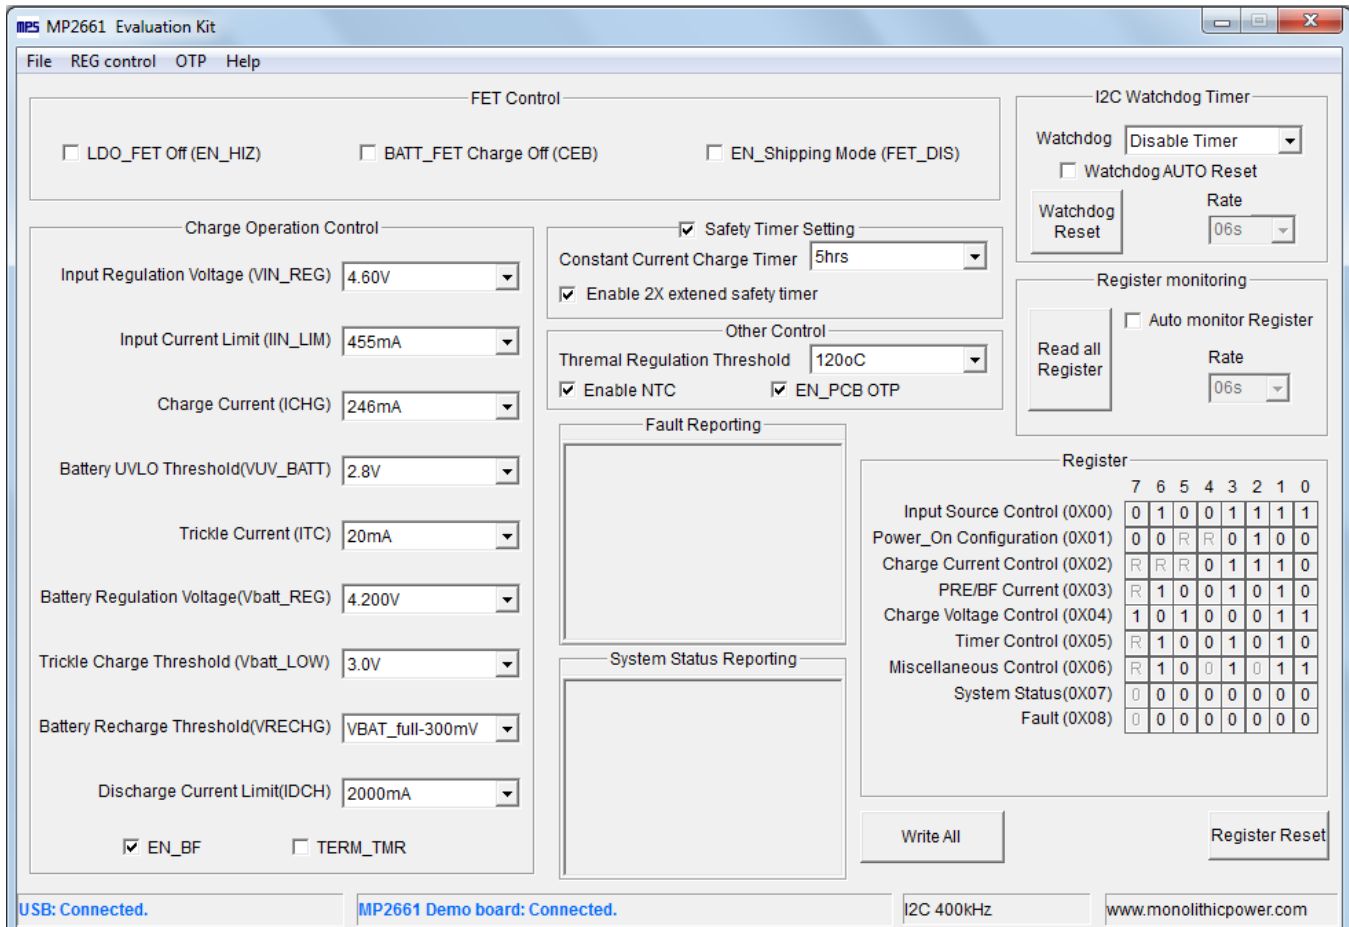

Figure 7: Appearance of USB and MP2661 EVB Board Show Connected
- If connection is successful, both the USB and MP2661 DEMO board statuses are "connected". (see Figure 7).
- Click the "Read All Register" button to read the I²C register values, and the default values are displayed (see Figure 7).